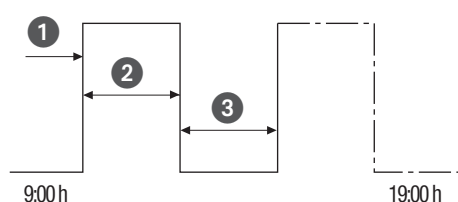

Fig. 33: Cycle switching
- (Fig. 33/①) Start time
- (Fig. 33/②) Period ON = switching ON
- (Fig. 33/③) Period OFF = switching OFF